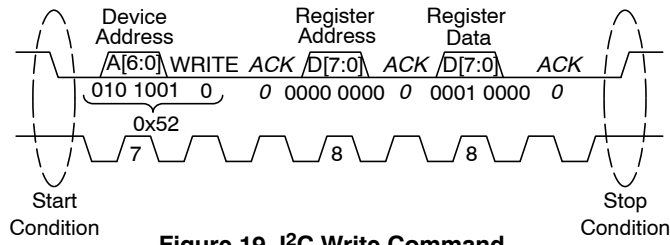

Figure 19. I²C Write Command
Figure 19 shows an I²C write operation. Write transactions begin with the master sending an I²C start sequence followed by the seven bit slave address (e.g. 0x29) and the write(0) command bit. The NOA1312 will acknowledge this byte transfer with an appropriate ACK. Next the master will send the 8-bit register address to be written to. Again the NOA1312 will acknowledge reception with an ACK. Finally, the master will begin sending 8-bit data segment(s) to be written to the NOA1312 register bank. The NOA1312 will send an ACK after each byte and increment the address pointer by one in preparation for the next transfer. Write transactions are terminated with either an I²C STOP or with another I²C START (repeated START).